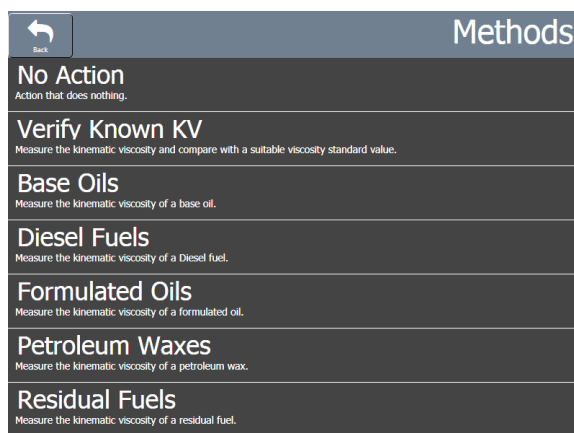

Figure 16 — Methods Screen
2. From the main screen, click the circle representing position 1 on the appropriate bath. The methods screen opens. See Figure 16.